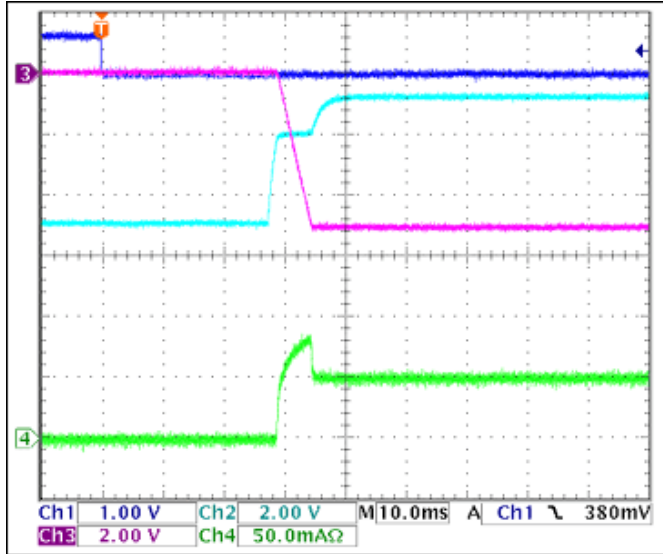

Figure 10. -5V turn-on waveforms, 100Ω resistive load = 50mA
-5V output-voltage slew rate $\approx 1\text{V/ms}$ (see **Figure 10**)